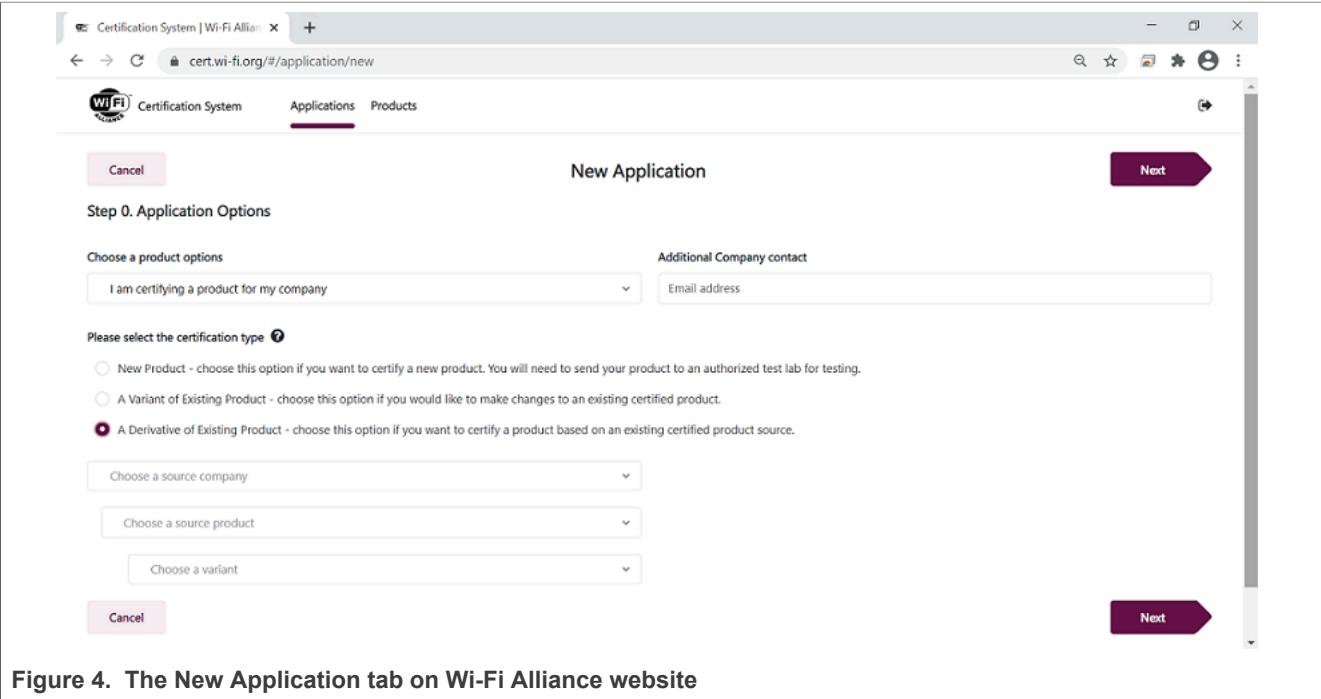

Figure 4. The New Application tab on Wi-Fi Alliance website
- On the **New application** page, select the certification type **A Derivative of Existing Product**. See Figure 4.